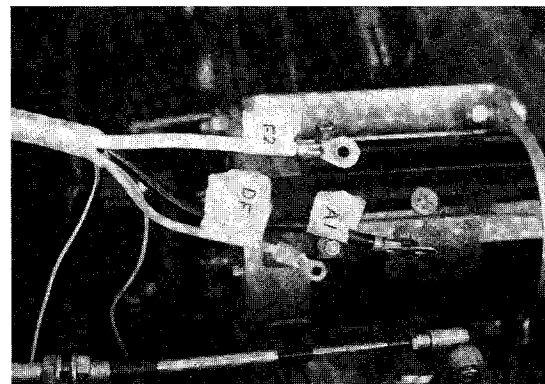

Figure 6-26
25. Reconnect starter-generator wires (**Figure 6-26**).